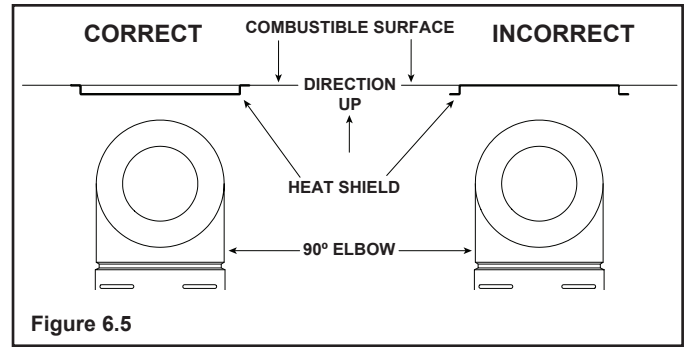

Figure 6.5
2. Fasten the shield in place using the four pilot holes provided in the part. The shield should be oriented such that the 13-1/8 inch dimension (longest dimension) is running in the same direction the elbow is pointing. The shield should be centered directly above the elbow, and positioned so that it creates a 1/2 inch airspace between the shield and the combustible surface. See Figure 6.5.